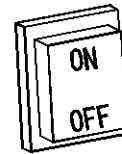

Figure.4
- a. Turn the power switch to position ON and check that the fan starts running correctly. (Fig 4.)